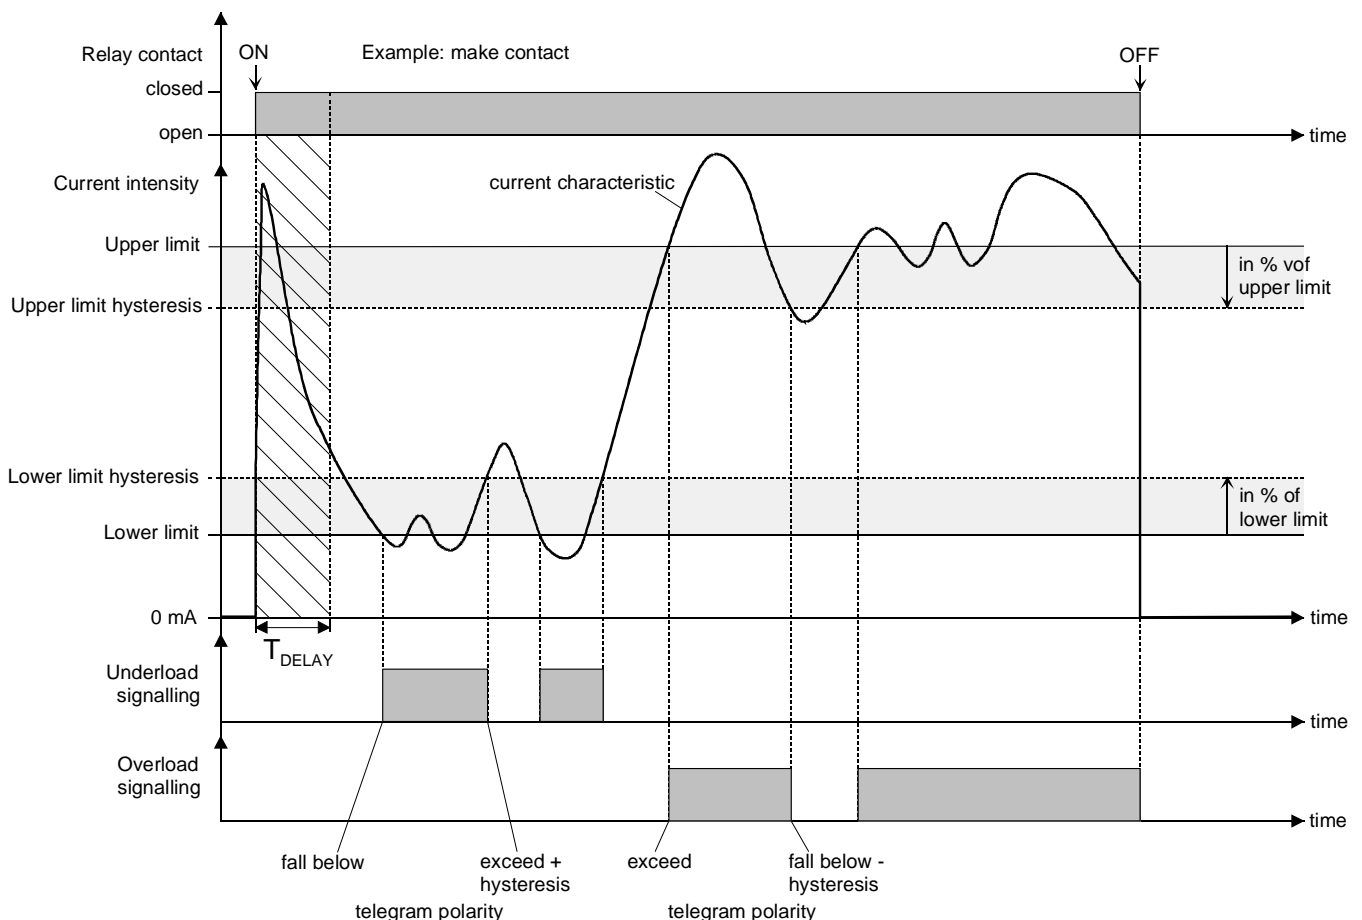

Fig. 17: Load monitoring with fixed load limits (exemplary current characteristic)
To increase noise immunity during reporting (suppression of small current fluctuations), a hysteresis can be separately specified for each current limit. The hystereses are parameterized in the ETS as a percentage of the current limits (cf. Figs. 17 & 18). For current measurements it is moreover possible to parameterize a delay (T_{DELAY}) after a switching event (change from break to make) so that load monitoring is delayed and a debouncing effect for switch-on currents achieved. No current measurement is performed during this delay so that the current intensity value for this time is set to "0".
- Monitoring can be based on fixed load limits parameterized in the ETS. The load limits can be freely defined independent of the load current (cf. Fig. 17).
- i** The message telegrams are transmitted to the bus as soon as the currents are above or below the limit values or the hystereses (cf. Figs. 17 + 18). The actuator transmits message telegrams with the parameterized polarity after the end of the "Delay after bus voltage return" only if the currents – after return of bus voltage or after ETS programming – are below or above the limits. In all other cases, no message telegrams will be sent after a reset.